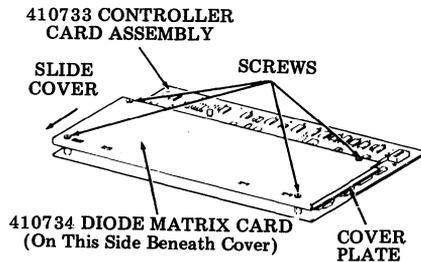

Fig. 19—40C303AC/003 Controller
- (a) Remove cover plate by loosening four screws (Fig. 19) and sliding cover to clear screws then lift off.
(b) Remove two screws (loosened in (a)) securing the 410734 diode matrix card (see Fig. 19). Slide card outward until free of center posts. Fold card outward using connecting cable as hinge.